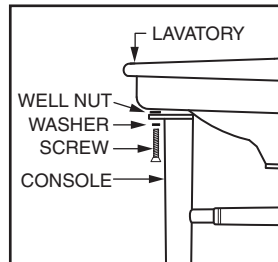

FIGURE 2
- Insert rubber well nuts into mounting hole on front underside of lavatory . **Fig. 2.**
- Securely attach console to lavy by inserting screws and washers through bracket on front legs into well nuts on front underside of lavatory. **Fig. 2.**